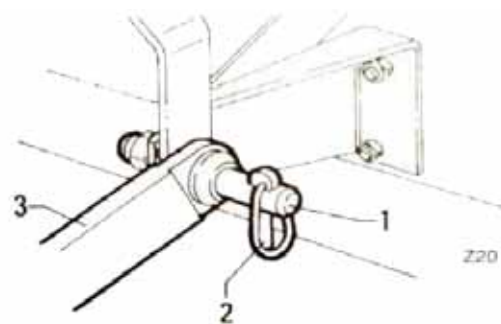

Figure 7
- Close these using the safety pins on "2" (Fig. 7).